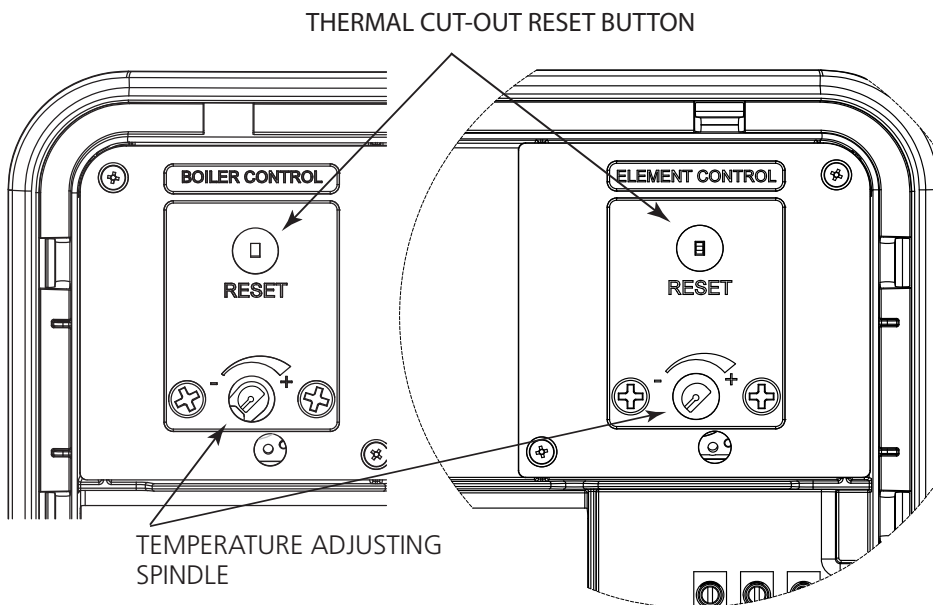

Figure 14: Thermostat adjustment
- ▶ The immersion heater thermostat is factory set at 60°C. Should this require adjustment see Fig 14 for details of how to adjust the temperature setting. Each immersion heater has its own individual thermostatic control. The thermostat incorporates a thermal cut-out that will switch off the immersion heater in the event of a thermostat failure. The thermal cut-out reset button position is also shown on Fig 14, page 19.
- ▶ The immersion heater and indirect control thermostats are factory set at 60°C. Should this require adjustment see Fig 14 for details of how to adjust the temperature setting. The immersion heater and indirect controls each has its own individual thermostatic control. The thermostats incorporate a thermal cut-out that will switch off in the event of a thermostat failure. The thermal cut-out reset button position is also shown on Fig 14.
- ▶ If necessary the temperature can be adjusted by inserting a flat bladed screwdriver in the adjustment spindle on front of the immersion heater (ELEMENT) control thermostat and rotating (see Fig. 14 page, 19 for details of how to adjust). The adjustment represents a temperature range of 10°C to 70°C.
- ▶ If necessary the temperature can be adjusted by inserting a flat bladed screwdriver in the adjustment spindle on front of the indirect (BOILER) thermostat and rotating (see Fig. 14, page 19 for details of how to adjust). The adjustment represents a temperature range of 10°C to 70°C.